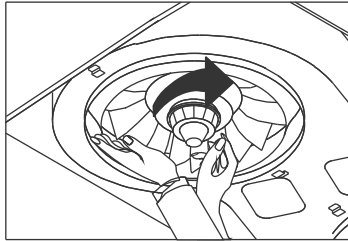
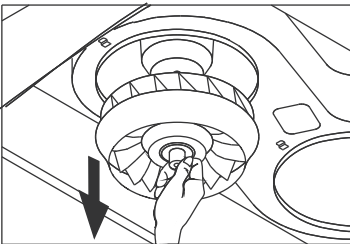

Fig.7-8
Fig.7-9
- a. Hold the fan blade. Unlock the nut in clockwise direction (fig.7-8) to remove the fan blade. (fig. 7-9)(Be careful while removing the fan to avoid damaging the fan blade.)